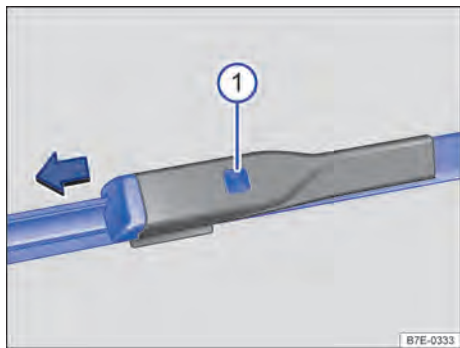

Fig. 169 On the windscreen: Changing the windscreen wiper blades.
① Release button.
3. Press and hold the release button and simultaneously pull off the wiper blade in the direction of the arrow → Fig. 169 ①.